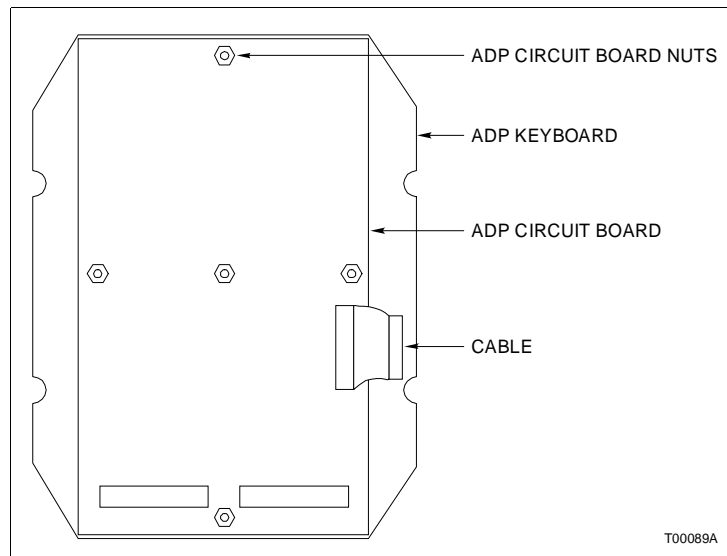

Figure PR71-3. ADP Keyboard
- 8. Use the M6 nut driver to remove the four RFI cover nuts from the ADP (Fig. PR71-3).